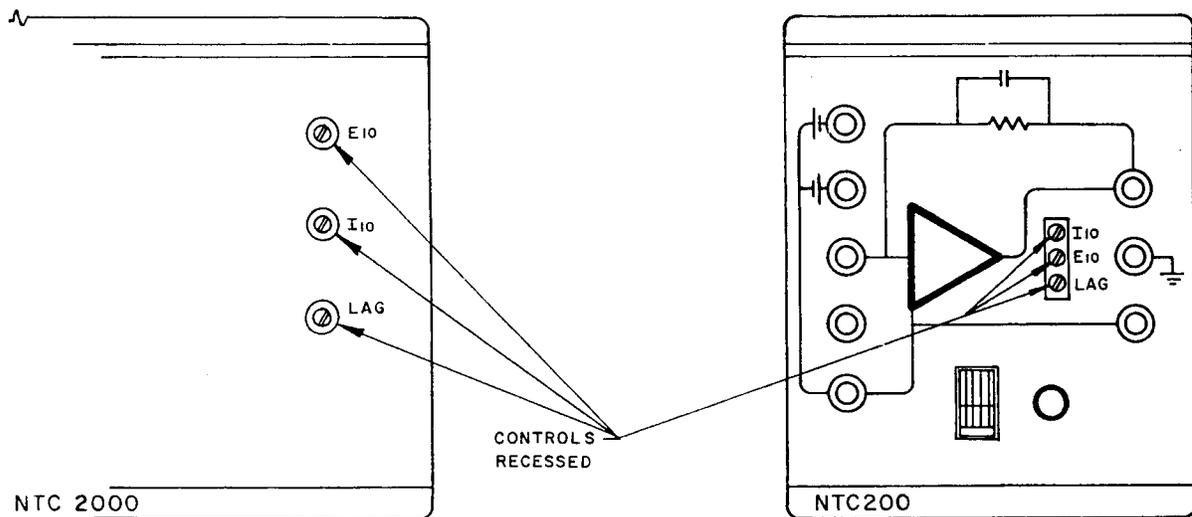

FIG. 2-1 LOCATION OF INTERNAL CONTROLS.
- c) INTERNAL ADJUSTMENTS (Refer to FIG. 2-1 and TABLE 2-1.)
- OFFSET VOLTAGE NULLING (S1 CLOSED).** Turn NTC "on" and allow sufficient warm-up time until instruments have reached thermal equilibrium. Locate the offset controls. (Refer to Section II, FIG. 2-1.) Observe the "Null Detector" (M1) at the output and gradually increase the sensitivity of the meter. Adjust "E_{i0} Null" (R12) until the "Null Detector" (M1) reads "zero."